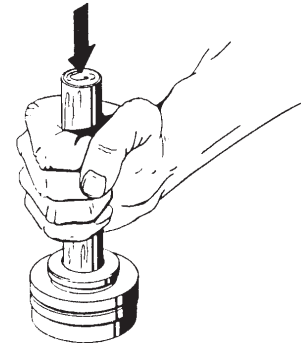

Figure 4-2
8. If the seal seat (#12.5B) must be reused, use a wooden dowel sized to fit through the hole in the seal cup to tap it out. (refer to figure 4-2) Ceramic seal seats are particularly easy to damage. Normally, always replace the seats when servicing the pump.